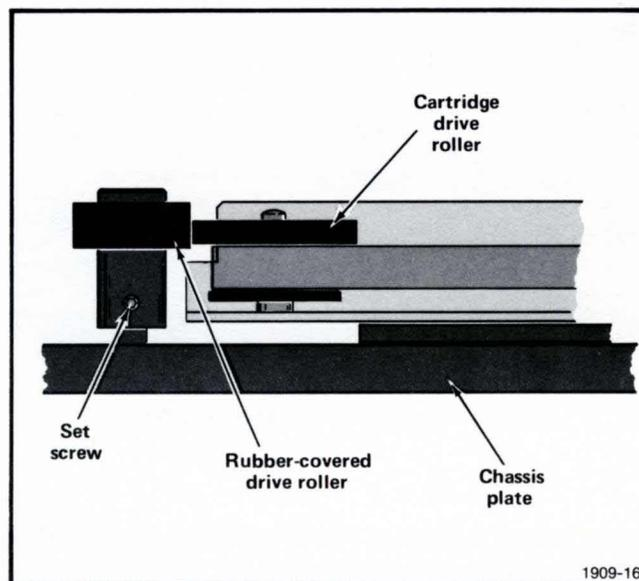

Fig. 3-6. Rubber Roller/Cartridge Roller Positioning.
10. Insert a cartridge into the unit and check to see that the rubber-covered roller contacts only the cartridge's internal drive roller (Fig. 3-6). After making certain that the rubber roller contacts only the cartridge drive roller, tighten the set screw against the flat area of the motor shaft.